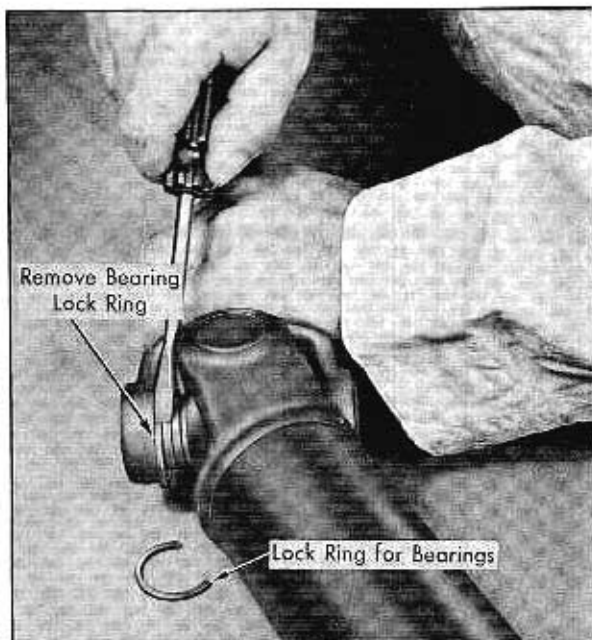

Fig. 8-10 Removing Lock Rings
1. Remove bearing retainer lock rings from universal joint, as illustrated in Fig. 8-10.